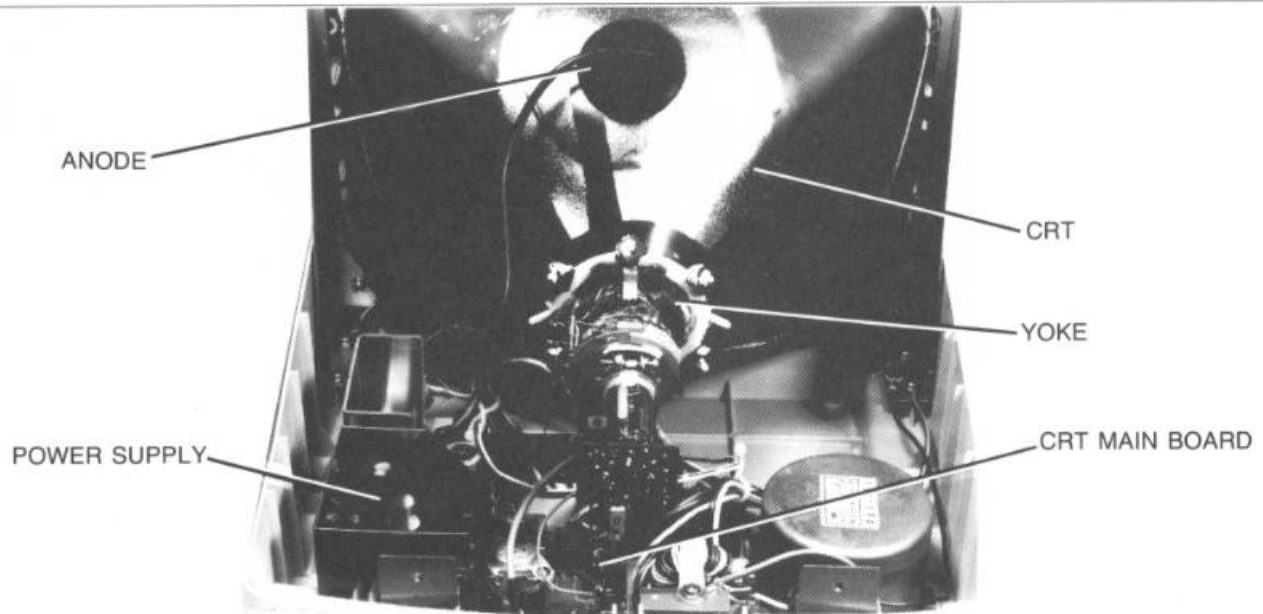

FIGURE 1-9. MONITOR COMPONENT LOCATIONS
1.3.4 Monitor Components (Figure 1-9)